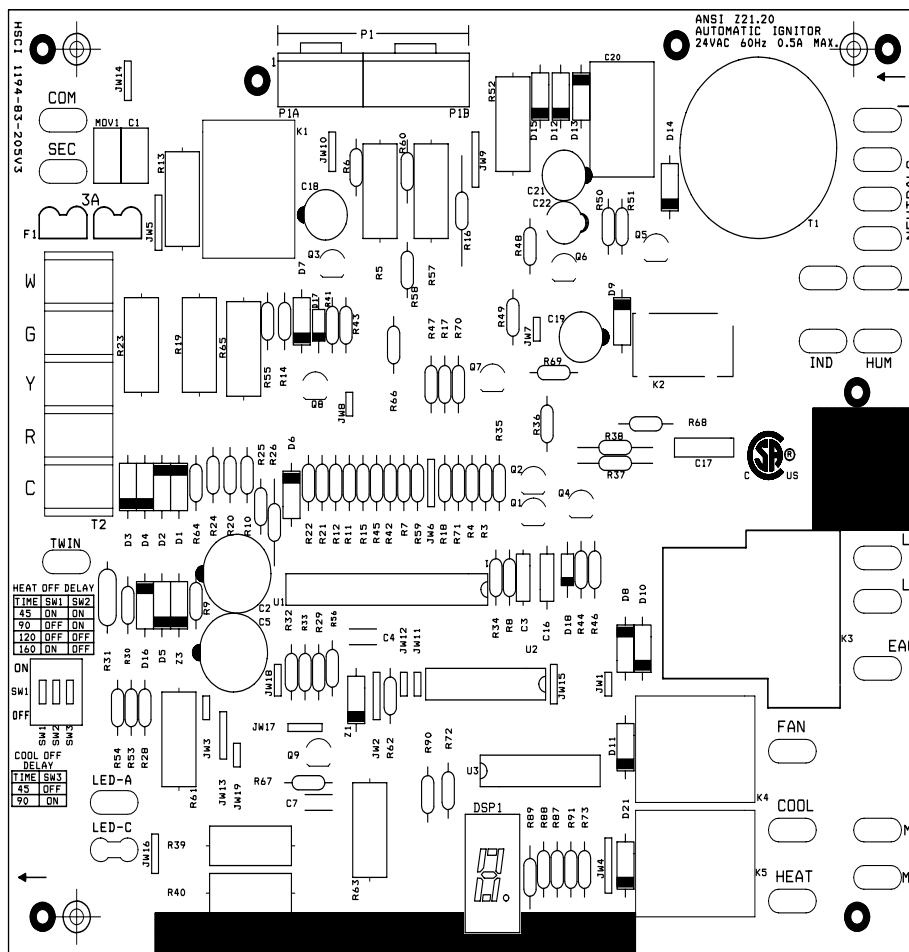
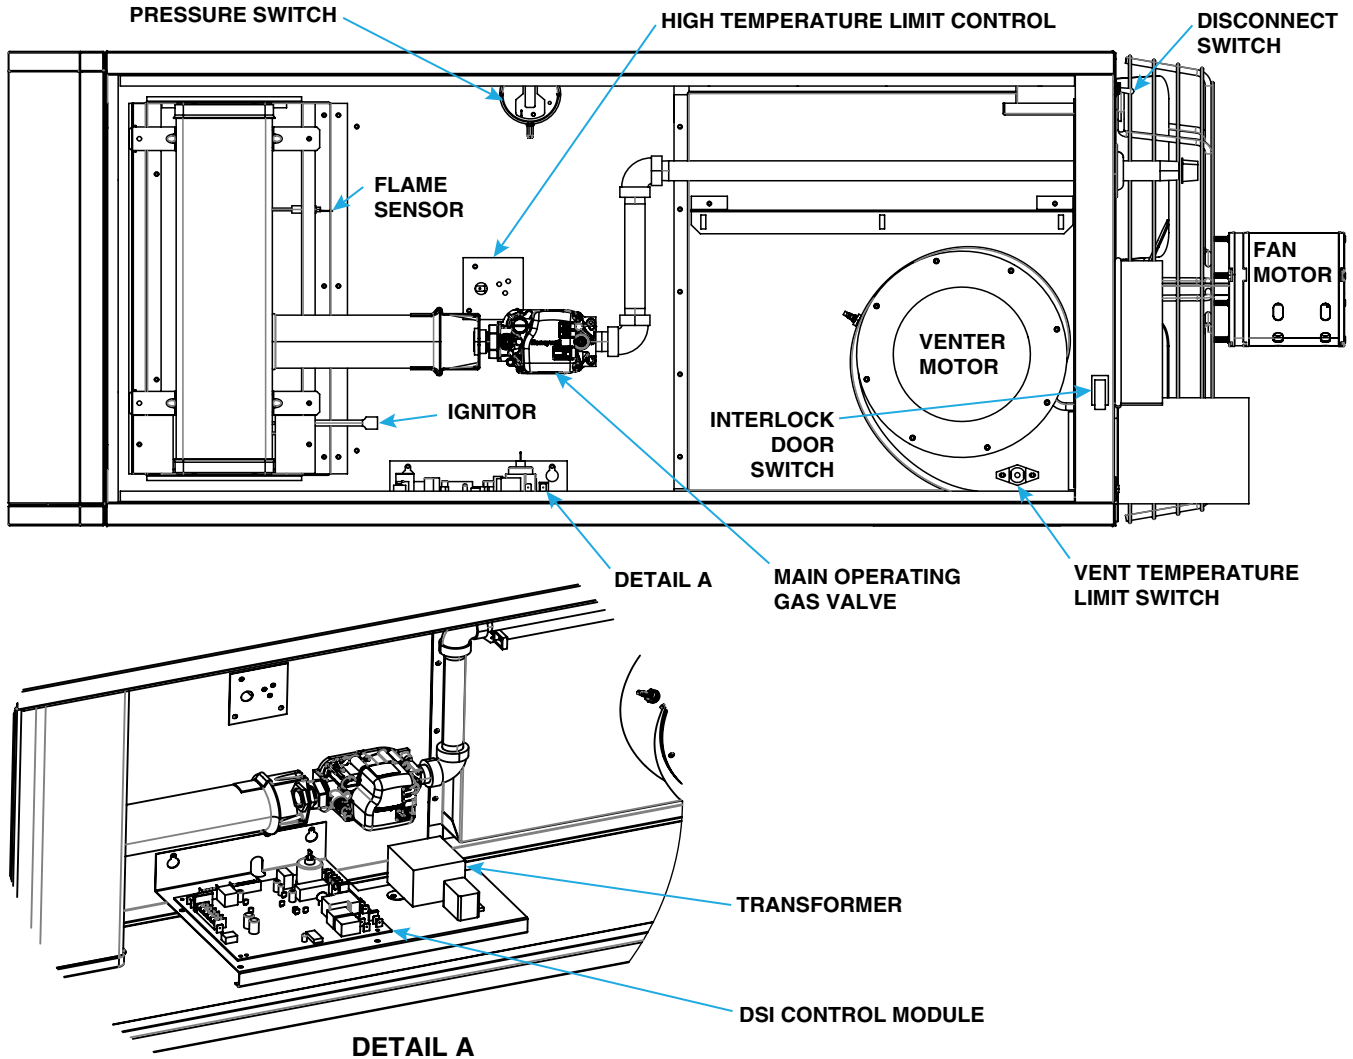

Figure 24. Circuit Board (DSI Control Module)
Figure 25. Component Locations
- The circuit board (see Figure 24) is located inside on the bottom of the control compartment. The circuit board is polarity sensitive. It is advisable to check the electrical supply ensure that the black wire is the **hot** wire and that the white wire is the **neutral** wire. The **hot** wire must be connected to terminal L1 on the circuit board.
Locations for the following controls are shown in Figure 25.
The main operating gas valve (see Figure 25 for location) is powered by the 24V control circuit through the thermostat and safety controls. The diaphragm-type valve is pre-set at the factory and provides regulated gas flow.
- The pressure (combustion air proving) switch (see Figure 25 for location) is a pressure-sensitive switch that monitors air pressure to ensure that proper combustion airflow is available.
All units are equipped with a temperature-activated, automatic-reset high temperature limit control (see Figure 25 for location). The control is factory-set and is non-adjustable. If the setpoint is reached, the control interrupts the electric supply to the gas valve. This safety device provides protection in the case of motor failure or lack of airflow due to a restriction at the inlet or outlet.
All units are equipped with a temperature-activated, manual-reset switch to limit the temperature of vent gases to below 145°F. The switch is attached to the side of the combustion air venter housing (see Figure 25 for location). If the setpoint is reached, the switch interrupts the electric supply to the gas valve. If the switch is activated, identify and correct the cause before resetting the switch.
All units are equipped with an interlock door switch (see Figure 25 for location) that prevents the heater from operating when the service door panel is open. The service panel is equipped with a pliable gasket that fully seals the door to provide added protection to prevent building air from entering the combustion zone of the heater.
The heater's ignition system is controlled by a circuit board (Direct-Spark Integrated (DSI) control module, see Figure 24) that monitors the safety devices and controls the operation of the fan and venter motors and the gas valve between heat cycles. To view the Seven-Segment Display (SSD), the door panel requires removal. In addition, there is a status LED on the bottom of the heater. Its status indications are **off** (heater is not powered or control board fault), **steady on** (heater is on with no faults), or **flashing** (heater is on with fault(s)). Additional status indications appear on the display at the bottom of the control module (labeled as DSP1, see Figure 24). The display's codes are listed and described in Table 19.
The venter motor (see Figure 25 for location) is assembled to the venter wheel and operates to provide combustion airflow. Operation is controlled by the circuit board (see Figure 24). Refer to the Circuit Board \(DSI Control Module\) section for details.